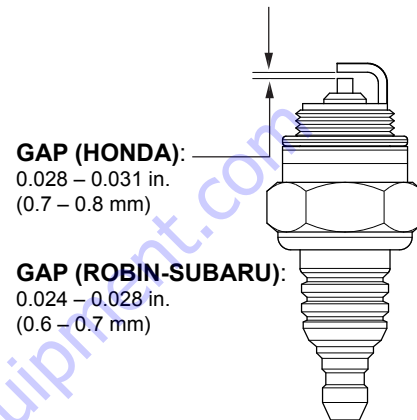

Figure 53. Spark Plug
1. Remove the spark plug (Figure 53) and clean it with a wire brush if it is to be reused. Replace the spark plug if the insulator is cracked or chipped.
2. Using a feeler gauge, adjust the spark plug gap (Figure 53). If your trowel has a **Honda** engine, the gap should measure 0.028–0.031 inch (0.7–0.8 mm). If your trowel has a **Robin-Subaru** engine, the gap should measure 0.024–0.028 inch (0.6–0.7 mm).